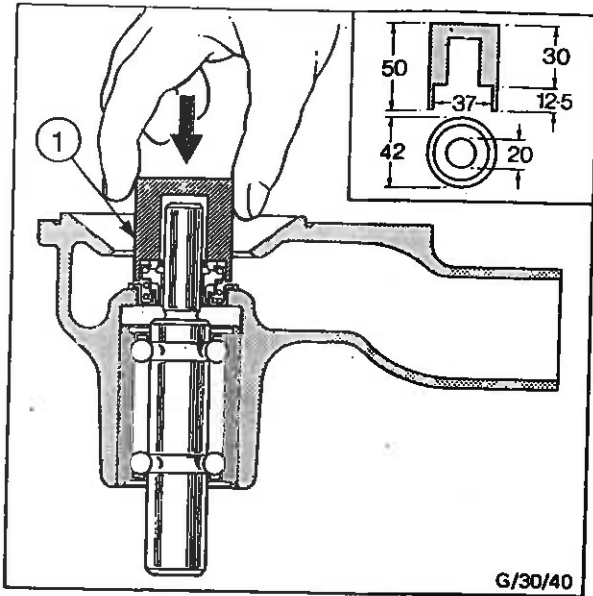

Fig. 7 - Fitting the Seal Assembly
2. Ensure the shaft is clean and free of oil or grease, then hold the seal assembly by the red retainer and slide the assembly (large diameter inwards) onto the shaft. Push it firmly into position using the special tool shown in Fig. 7 to ensure that pressure is exerted on both parts of the assembly simultaneously. The tool should be made locally to the dimensions shown.